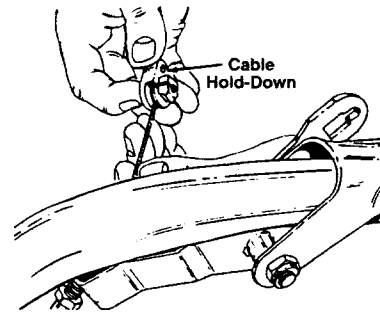

FIGURE 5
3. Hook the barrel end of the cable into the cable hold-down. Slide the cable around in the slot as shown in figure 5.